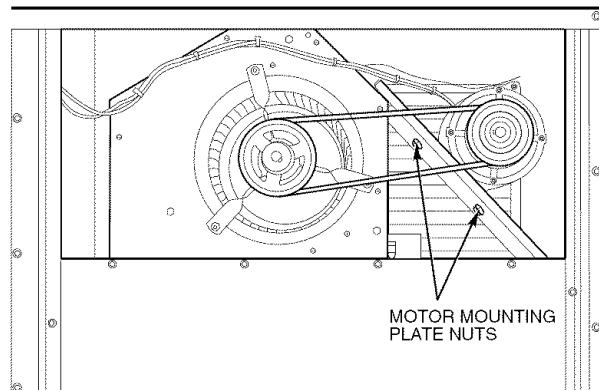

Fig. 40 — Belt Drive Motor Mounting
BELT-DRIVE MOTORS — Fan motor pulleys are factory set for speed shown in Tables 1A and 1B. See Fig. 40 for belt drive motor location.
2. Loosen belt by loosening fan motor mounting nuts. See Fig. 40.